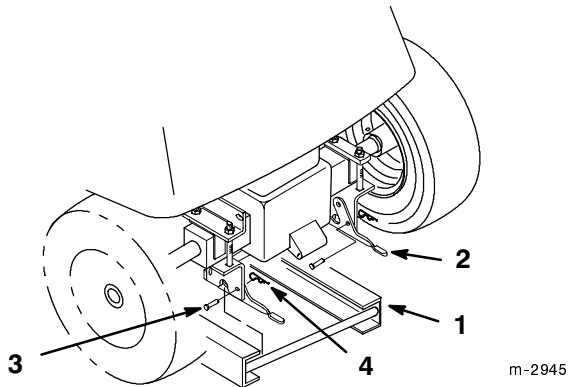

Figure 11
7. Close the latch levers and secure them closed with the clevis pins and hairpin cotters (Fig. 11).